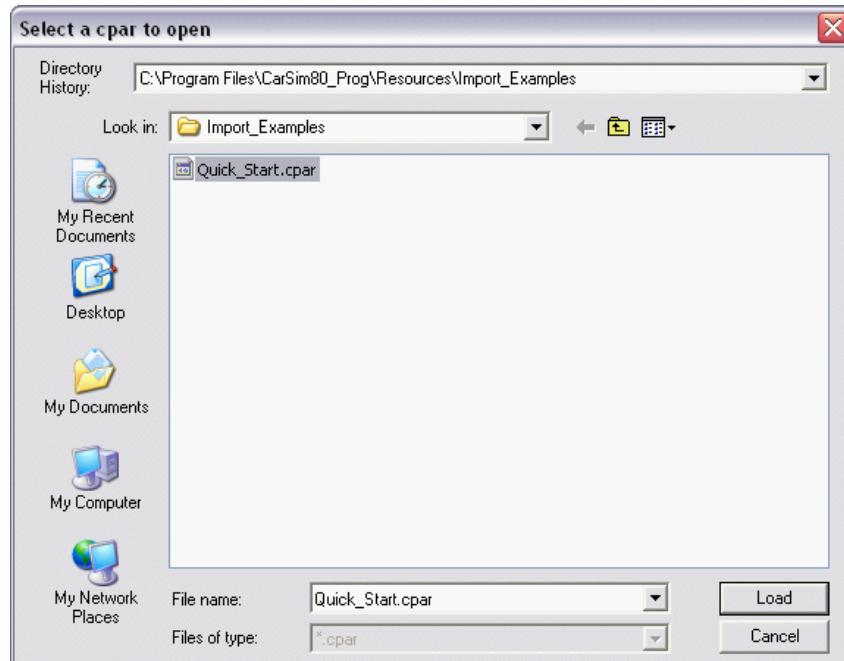

Figure 4. Select the **Quick_Start** consolidated parsfile.
4. The Windows file navigation window will appear (Figure 4). Navigate to the CarSim80_Prog folder installed on your machine (typically in C:\Program Files), and continue into Resources\Import_Examples to find the file Quick_Start.cpar. Select this file and click the **Load** button.